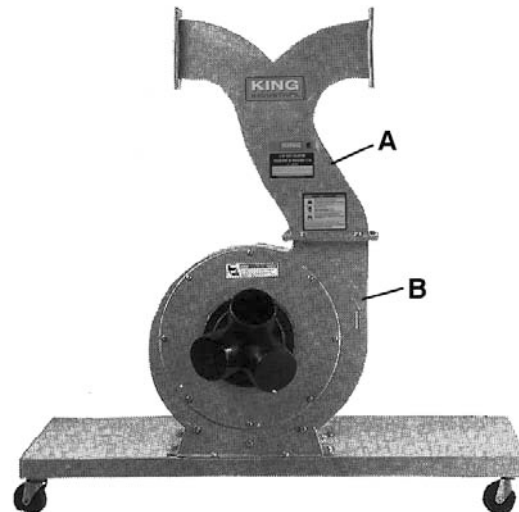

FIGURE 7
5. Attach connector tube (A) Fig.7 to the fan housing (B) using hex. bolts, washers and nuts. Make sure the connector tube faces the proper direction, as shown in Fig.7.